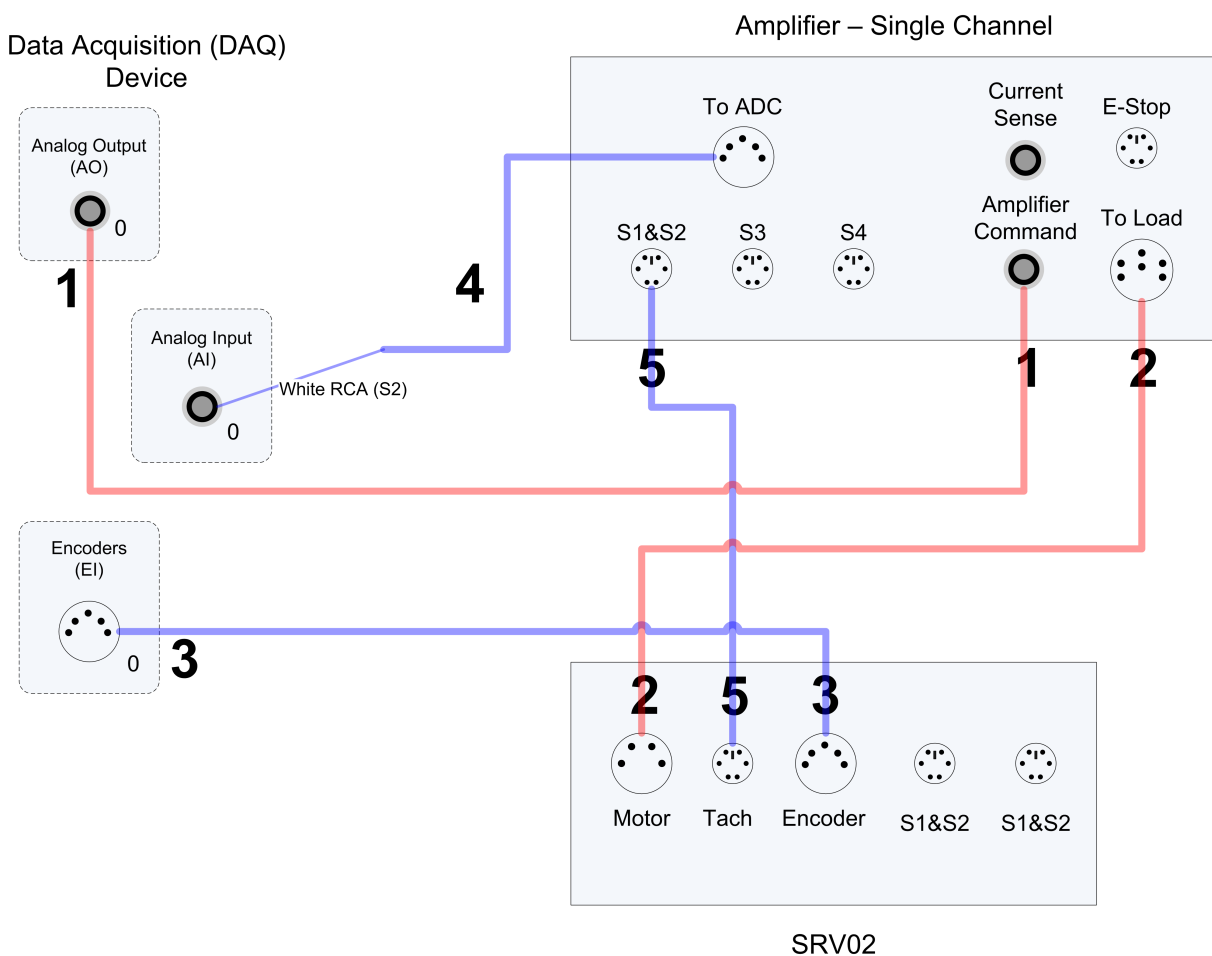

Figure 5.1: Connecting the SRV02 to a Single-Channel DAQ and Amplifier
This section describes the typical connections used to connect the SRV02 plant to a data acquisition device and a power amplifier. **Only the encoder and tachometer sensors are connected (i.e., potentiometer is NOT used).** The connections are summarized in Table 5.2, and pictured in Figure 5.1. Connection details are given below.
Note: The wiring diagram shown in Figure 5.1 is using a generic data acquisition device. The same connections can be applied for any data acquisition system that has 1x analog input, 1x analog output, and 1x encoder input (e.g., single Q1-cRIO module).
3. Connect one end of the 2xRCA to 2xRCA cable from the Analog Output Channel #0 on the terminal board to the *Amplifier Command* connector on the amplifier, i.e., use both white or both red RCA connectors. See cable #1 shown in Figure 5.1.
4. Connect the 4-pin-stereo-DIN to 6-pin-stereo-DIN that is labeled from *To Load* on the amplifier to the *Motor* connector on the SRV02. See connection #2 shown in Figure 5.1.
5. Connect the 5-pin-stereo-DIN to 5-pin-stereo-DIN cable from the *Encoder* connector on the SRV02 panel to Encoder Input # 0 on the terminal board, as depicted by connection #3 in Figure 5.1.
6. Connect the *To ADC* socket on the amplifier to Analog Inputs #0-1 on the terminal board using the 5-pin-DIN to 4xRCA cable, as illustrated in Figure 5.1. The RCA side of the cable is labeled with the channels: yellow is S1, white is S2, red is S3, and black is S4. The yellow S1 connector goes to Analog Input Channel #0 and the white S2 connector goes to Analog Input Channel #1.
7. Connect the *TACH* connector on the SRV02 to the *S1 & S2* socket on the SRV02 using the 6-pin-mini-DIN to 6-pin-mini-DIN cable. This connection is labeled #5 in Figure 5.1. It combines the potentiometer (S1) measurement with the tachometer (S2) measurement.
8. Connect the *S1 & S2* connector on the SRV02 to the *S1 & S2* socket on the amplifier using the 6-pin-mini-DIN to 6-pin-mini-DIN cable. See connection #6 in Figure 5.1. This carries the potentiometer (S1) and tachometer (S2) signals.
7. Connect the *TACH* connector on the SRV02 to the *S1* & *S2* socket on the SRV02 using the 6-pin-mini-DIN to 6-pin-mini-DIN cable. This connection is labeled #5 in Figure 5.1. It combines the potentiometer (*S1*) measurement with the tachometer (*S2*) measurement.
8. Connect the *S1* & *S2* connector on the SRV02 to the *S1* & *S2* socket on the amplifier using the 6-pin-mini-DIN to 6-pin-mini-DIN cable. See connection #6 in Figure 5.1. This carries the potentiometer (*S1*) and tachometer (*S2*) signals.
Note: The wiring diagram shown in Figure 5.1 is using a generic data acquisition device. The same connections can be applied for any data acquisition system that has least 2x analog inputs, 1x analog output, and 1x encoder input.